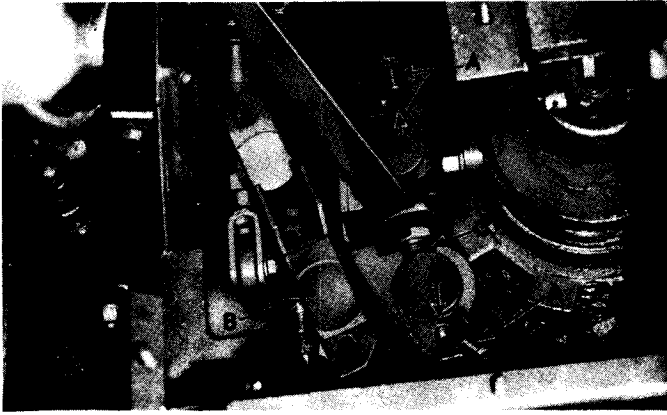

FIG. 5
2. Turn the vertical propelling shaft gear until the adjusting screw can be reached and remove the cap screws "A" holding lock plate "B". (See Fig. 5).